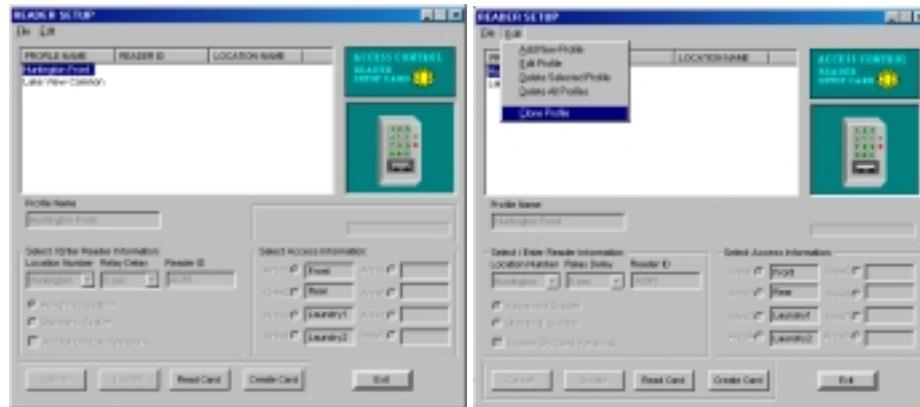

Figure 11.38 Cloning a Reader Setup Profile
1. In the Reader Setup window click the profile to clone from the Profile List Window (Figure 11.38).
2. Select Clone Selected Profile from the Edit drop-down menu (Figure 11.38).